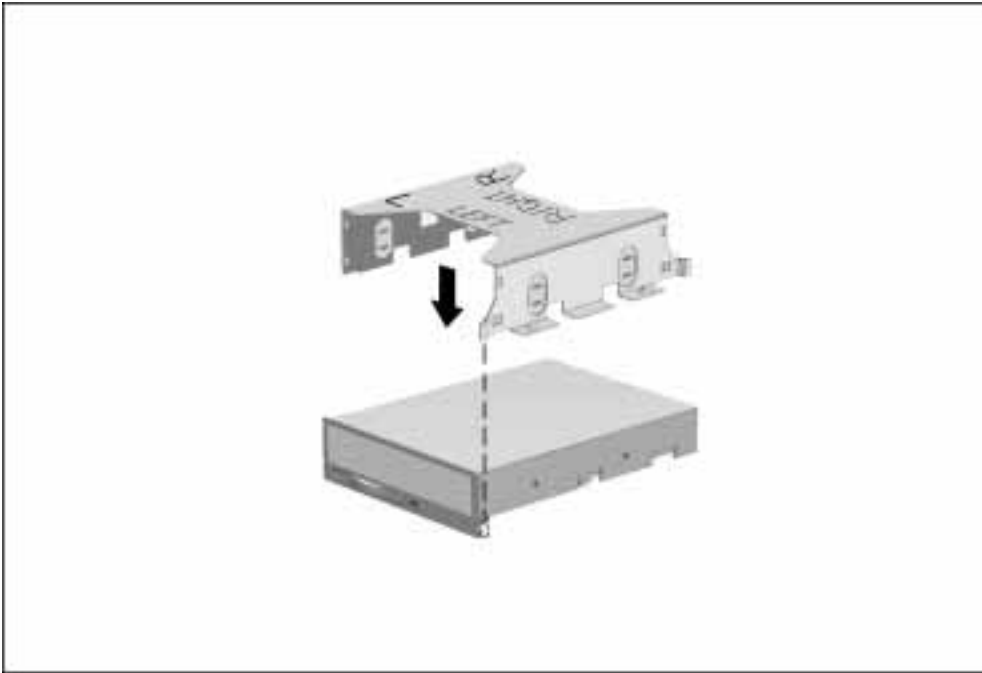

Figure 5-23. *Aligning the Half-Height MultiBay Adapter with the Drive Cage*
5. Place the drive cage over the half-height MultiBay adapter. Align the front of the adapter with the tab on the front of the drive cage (Figure 5-23).